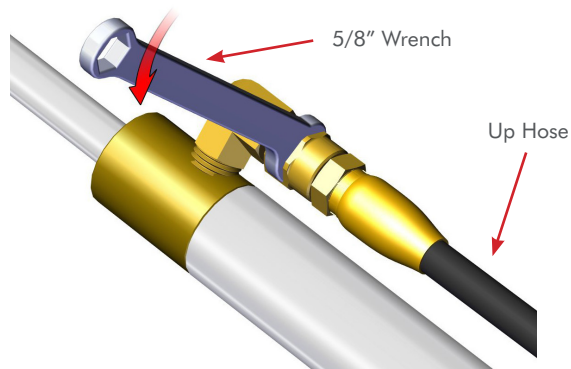

Figure 1
- STEP 1** Disconnect the "Up" hydraulic hose from the hydraulic cylinder with 5/8" wrench. (**FIG. 1**)